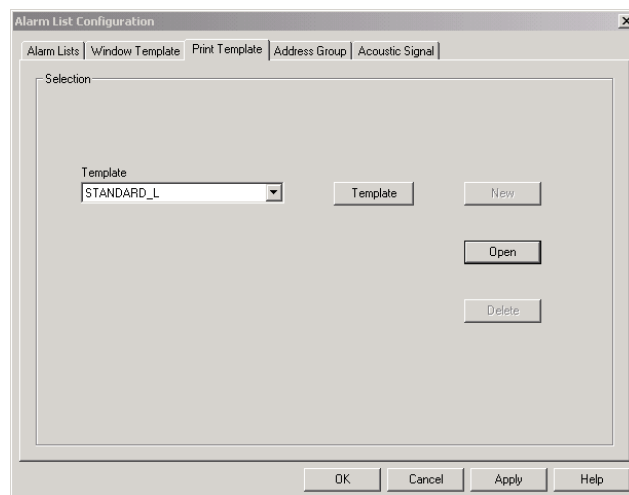

Fig. 6-8: Alarm list configuration – Print tab
1. Select an existing print template (see Fig. 6-8).